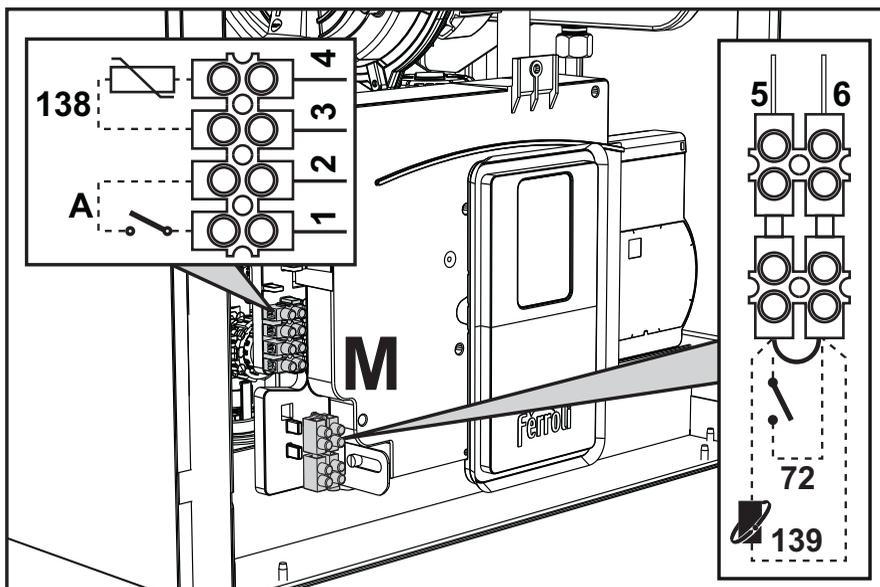

fig. 29
After removing the front panel ( \*\*\* 'Opening the front panel' on page 331 \*\*\* ) it is possible to access the terminal blocks (M) and the fuse (F) following the directions given below (fig. 29). **The terminals indicated in fig. 29 must be with voltage-free contacts (not 230V).** The arrangement of the terminals for the various connections is also given in the wiring diagram in fig. 66.
**ON/OFF (A fig. 29) configuration**